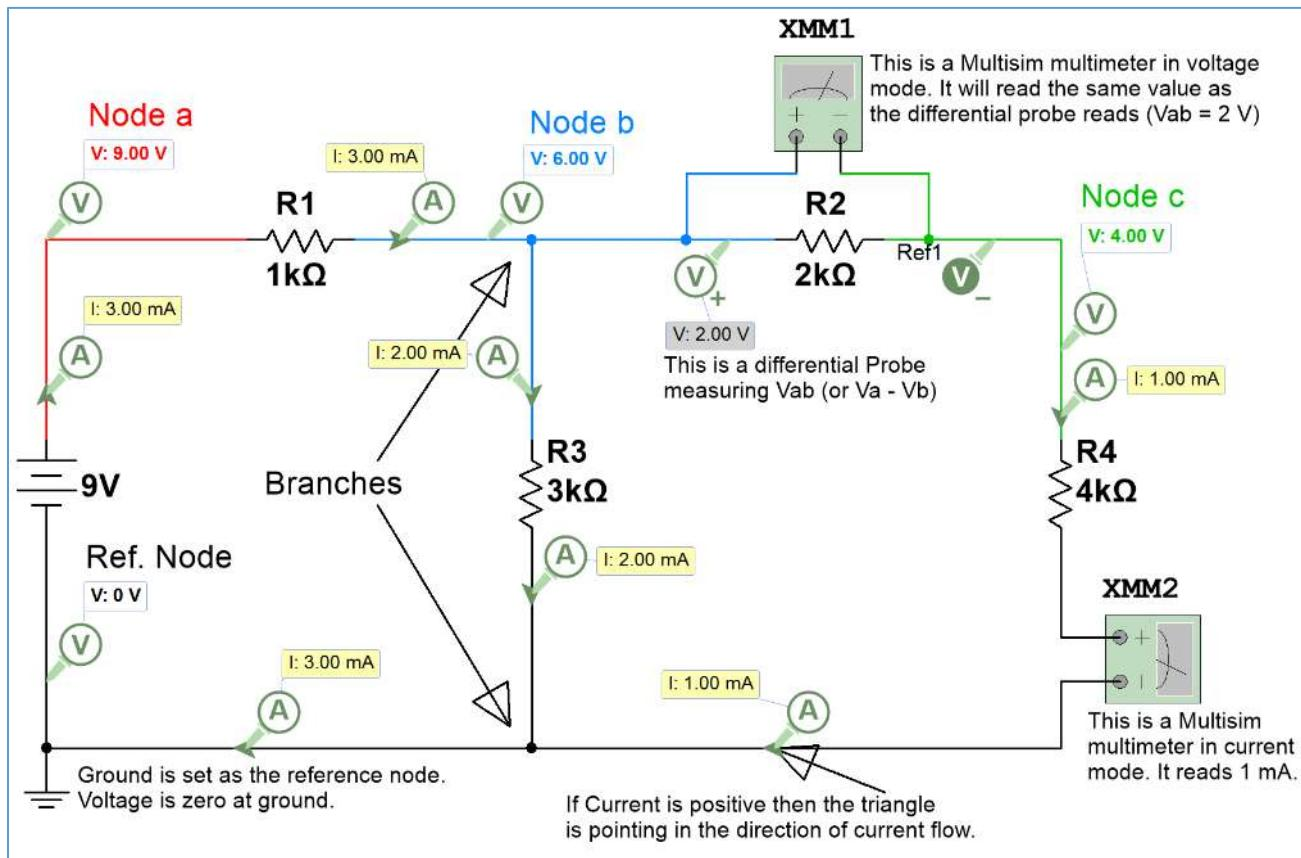
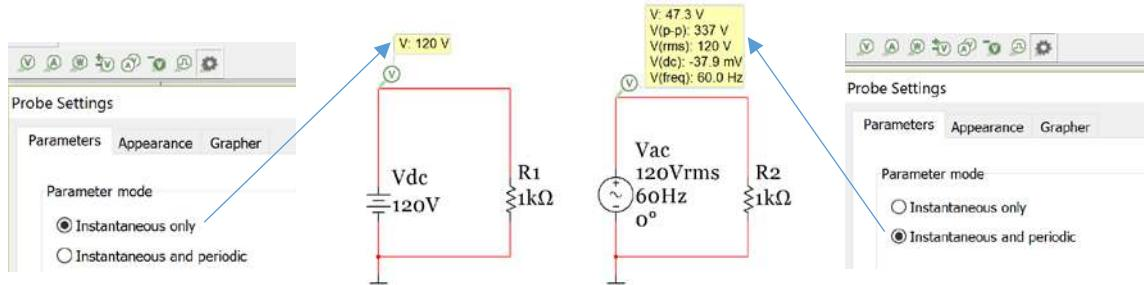
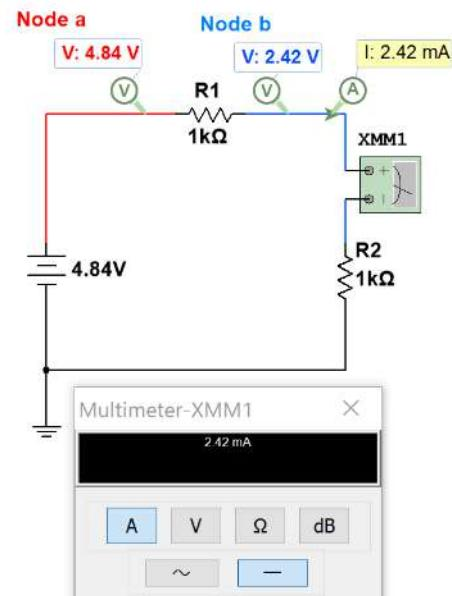

Figure 1.7: Circuit showing probes, Multimeters, branches, and nodes.
Figure 1.7a: Preferred probe settings for DC circuits (Left) and AC circuits (Right).
Figure 1.8: Circuit showing current measured with a Multimeter.
Before discussing current let's look at some statements about voltage. Figure 1.7 provides some visual explanations to these statements.
- Voltage is the same at all points on a node (a place shared by 2 or more circuit elements). For example, the blue line that represents Node b in Figure 1.7 is 6 V at every point on the blue line.
- When measuring voltage across one or more components with a Multisim Multimeter (see XMM1) you wire two different nodes to the + and – terminals and then double click on the meter and put it in Volts mode (V) and DC mode (straight line). XMM1 reads the voltage value across R2, which is also the value of Vab. Vab is the difference between node voltages Va and Vb. Vab is an example of **double subscript notation** ($V_{ab} = V_a - V_b$). Va is an example of **single subscript notation**. Va is the voltage at node a, and the reference is ground. When ground is not the reference for the measurement differential probes can be used to measure the voltage difference between nodes.
- Current doesn't change as it runs through components until it is split in a branch (see Figure 1.7). Voltage doesn't change at a branch unless it goes through a circuit element.
- When measuring current with a Multisim Multimeter (see XMM2 in Figure 1.7) you have to break the circuit and run it through the meter and then double click on the meter and put it in Amps mode (A) and DC mode (straight line). The same process is used to measure the current with an actual Multimeter as shown in Figure 1.8.
Note: In Figure 1.7 all of the probes only have I and V, but when the current and voltage probes are normally placed in Multisim the “Instantaneous and periodic” probe setting is the default so you will see 5 voltage measurements (as shown in Figure 1.7a). From top to bottom these voltage measurements are: 1-Instantaneous, 2-peak to peak (V_{pp}), 3-Root-Mean-Square (V_{rms}), 4-average (V_{avg}), and the 5-frequency. The average voltage is labeled $V(dc)$ in the Multisim probe because V_{avg} is equivalent to the DC value. The instantaneous voltage is the value at a specific time and will continuously change as the AC current flows through the circuit. These four **additional parameters** for voltage or current are only used for AC circuits. When dealing with DC circuits there is only one type of voltage and current so only the instantaneous measurements are needed. To get only the DC current or voltage click on the probe settings and change the default to “Instantaneous Only” as shown in Figure 1.7a.
The circuit in Figure 1.8 shows a simple circuit with two resistors in series with a battery pack that has three AA batteries in it. You can see how one end of one of the resistors is pulled out of the breadboard to break the circuit and allow current to be measured with the Multimeter.
Example 1.8) using equation 1.6 solve for the current flowing through the R1 resistor in Figure 1.8.
Answer: Applying equation 1.6 to the circuit in Figure 1.8 yields: